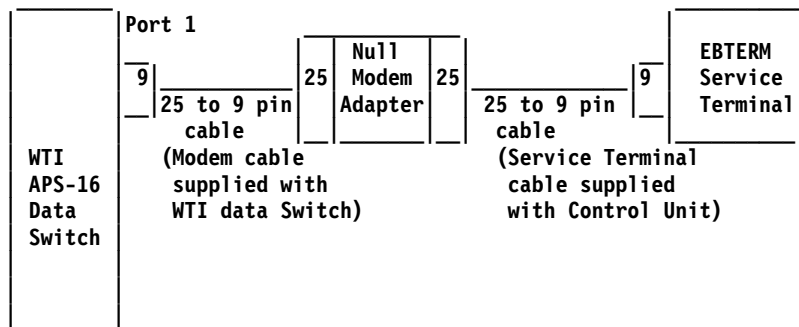

Figure 123. Local Setup and Test of APS Switch
- b. Connect the 25 pin end just unplugged to the end of the Service Terminal cable. Use the Null Modem Adapter with the gender changer between the two 25 pin connectors (see Figure 123).